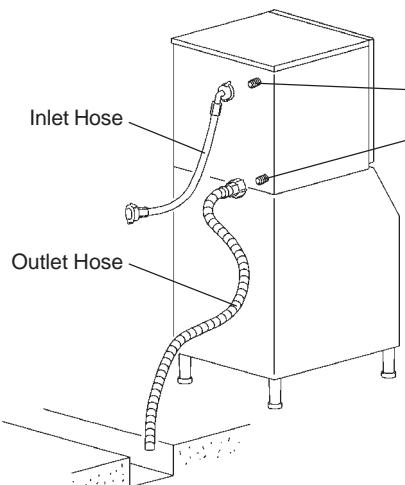

Fig. 7
1) Attach the angled end of white flexible inlet hose (accessory) to the G3/4 fitting on the left side of the icemaker as indicated, ensuring rubber sealing washer is correctly positioned. Hand tighten sufficiently to provide leak free joint (Fig. 7).